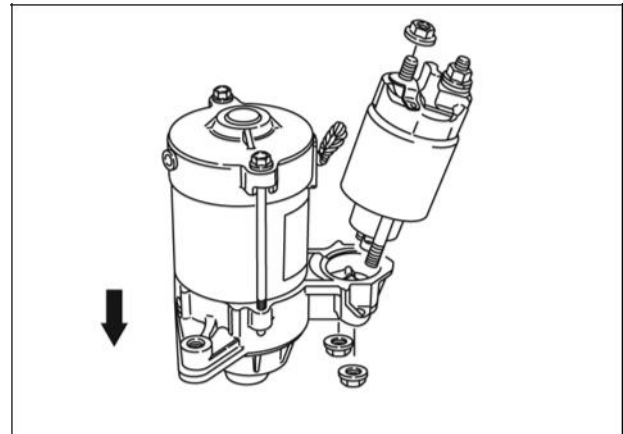

Figure 49
2. Remove starter thru bolts (A, Figure 49).